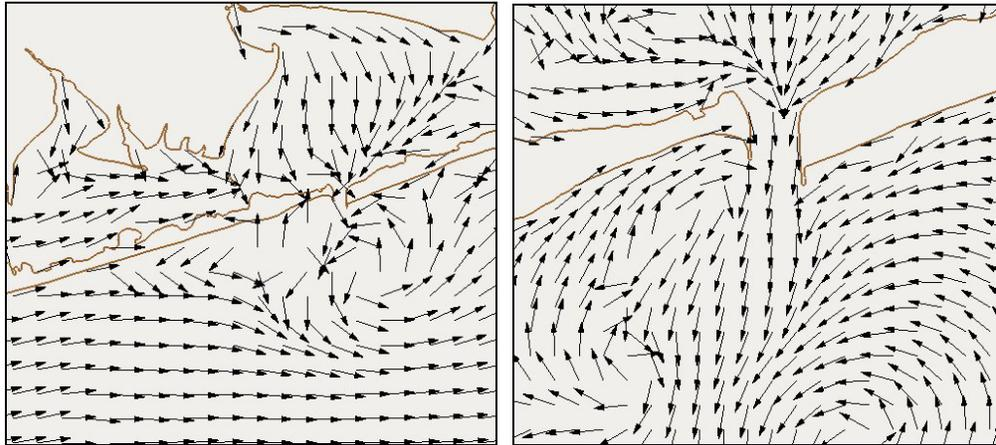

Figure 5-9. Vectors on a grid.
*SMS* will display vectors at 15-pixel (screen point) spacing. Figure 5-9 shows how this option looks at two different scales around the inlet.